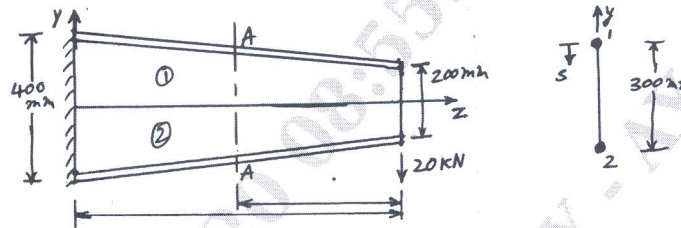

Fig.Q7(a)
- 7 a. Determine the shear flow distribution in the web of the tapered beam shown in Fig.Q7(a) at a section midway along its length. The web of the beam has a thickness of 2mm and is fully effective in resisting direct stress. Each flange area is  $400 \text{ mm}^2$ .